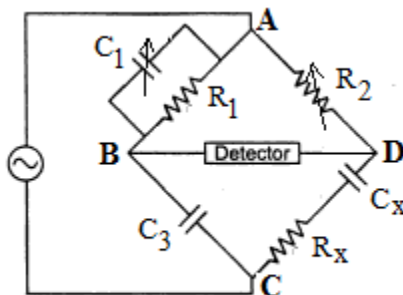

Fig.2
- b. An ac bridge has the following constants in Fig.2.